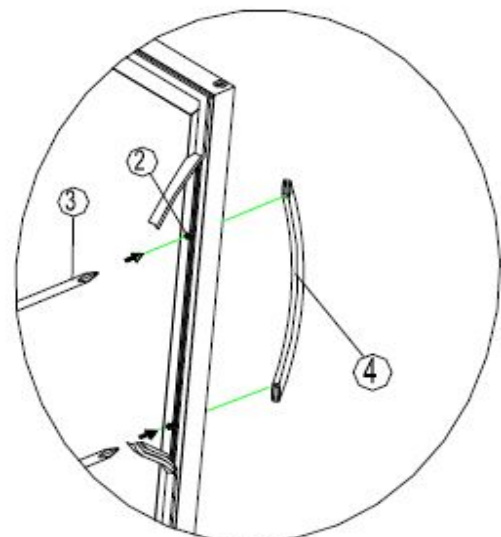

Fig .2
2. Align the handle with the screws to be installed. Tighten the screws using a Phillips head screwdriver until the handle sets both flush and secured tightly against the door frame. DO NOT over-tighten as this will cause damage to the handle assembly. Refer to Fig. 2. Replace the door gasket in its original position.